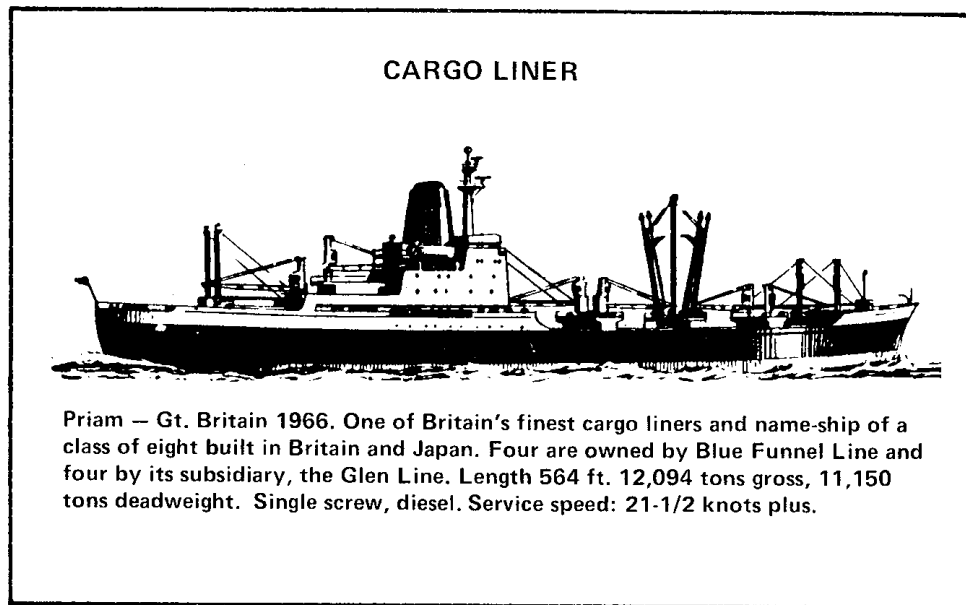

Figure 8-57 Cargo Liner
- m. **Superstructure or Upperworks** — Structures or deck houses built above the main hull of the ship. (See Figure 8-57.)